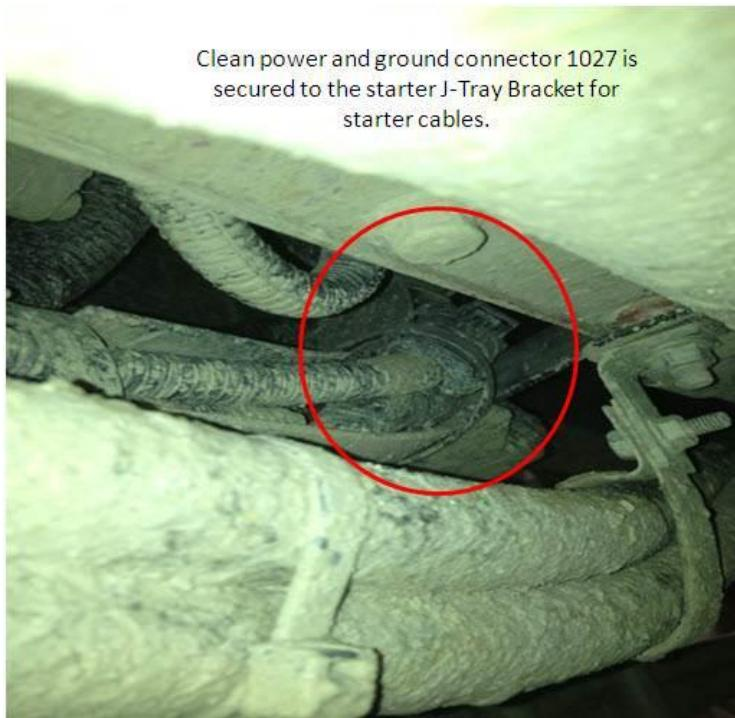

Figure 1: Connector 1027 - ECM Battery Feed on Vehicle
1. Locate connector 1027 - ECM Battery Feed on the J-Tray Starter Bracket, as shown in Figure 1 below